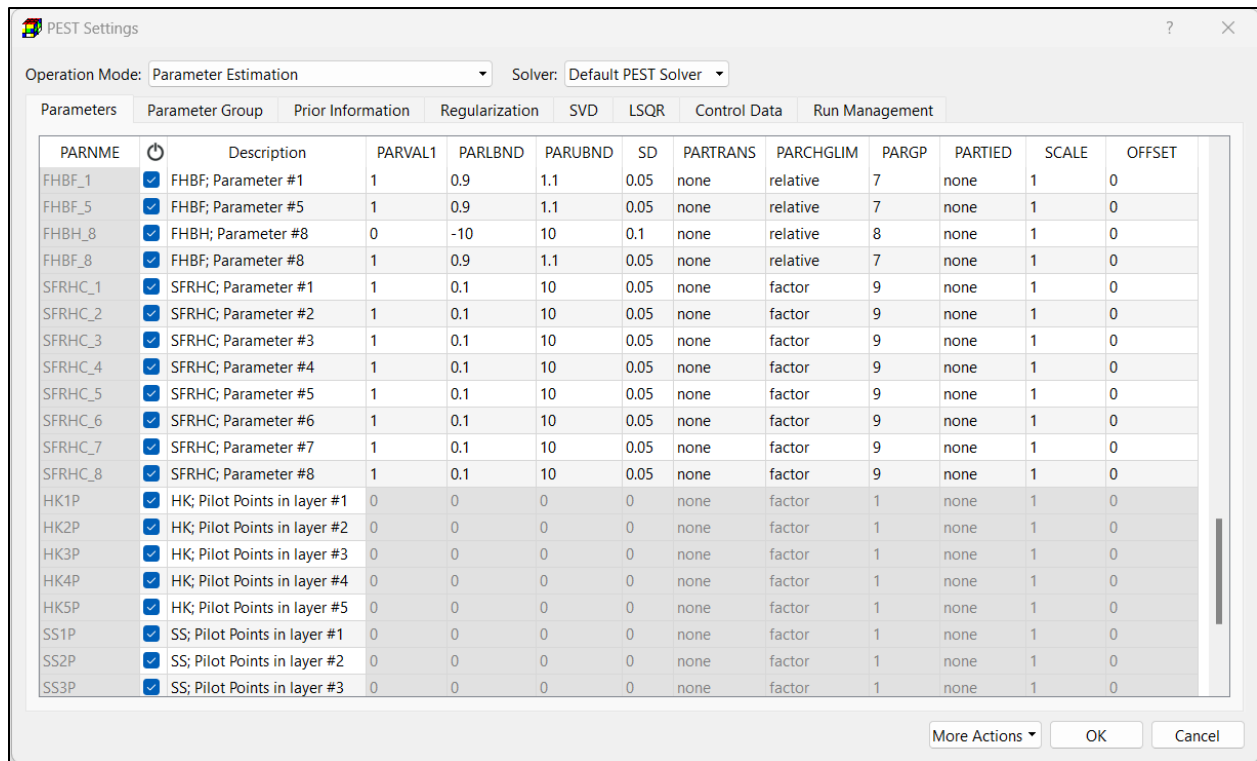

Figure 147. The Parameters tab of the PEST Settings dialog box
- Open the PEST Settings dialog box (Figure 147) by selecting *Models > PEST > Settings*.
Once adjustable parameters are defined, you can add them to the Parameters tab of the PEST Settings dialog box (Figure 147) by selecting *Model > PEST > Settings*. Each row of the Parameters table represents a zone-wise parameter or pilot points of an aquifer parameter in a model layer. If the PEST Settings dialog box is opened the first time, the defined parameters will be listed in the Parameters Tab. Otherwise, select *More Actions > Search for Parameters* in that dialog box to add new parameters.
PEST Settings refer to the configuration and control parameters specified in a PEST Control file (pest.pst). Most of the required data can be entered through the PEST Settings dialog box (Figure 147). The PEST Control file is a crucial component of model calibration, defining how the process is conducted through the key sections listed below. PM automates the management of these settings to streamline the calibration workflow. For a detailed explanation of each setting, refer to Section 3.9.5.2.
The required inputs and options for running PEST are specified in the PEST Settings dialog box (Figure 147), which includes several tabs and a few options. The variable names used in this dialog box are identical as those given in the PEST Manual (Doherty, 2016) and the PEST++ manual **Error! Bookmark not defined.** The available options are described below. The tabs are described in the next subsections.